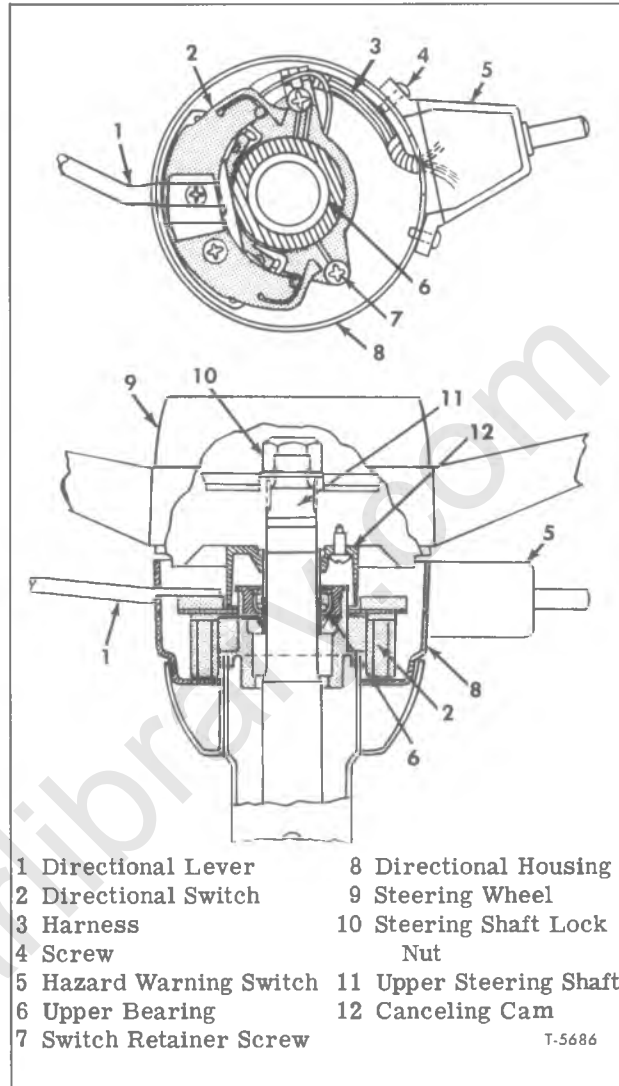

Figure 16—Upper Steering Column (Cowl and Conventional Cab) (Typical)
1. Remove screws attaching directional signal control lever to control switch assembly and remove lever (1, fig. 16).
2. Remove three screws (7, fig. 16) which attach directional signal control switch assembly (2) to control housing (8). Remove switch and harness (3) from housing.
3. Twist directional control housing (8, fig. 16) counterclockwise and remove from steering column
2. Referring to figure 16, install directional and hazard warning control switch and harness (2 and 3) in housing (8) using the three retainer screws (7). Tighten screws securely. Install hazard warning switch (5) to housing. Inspect wiring harness (3) and make certain it is not pinched and is properly positioned. Install directional control lever (1)
2. Referring to figure 16, remove directional control lever from control switch.